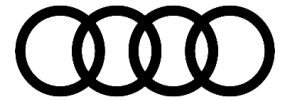

Figure 8. Silicone adhesive sealant example 1.
10. Both sealing caps must be bonded over the entire surface using the silicone adhesive sealant. A layer of skin forms and then hardens (Figures 8 - 9). A drying time of at least 30 minutes must be ensured before reinstallation into the vehicle.